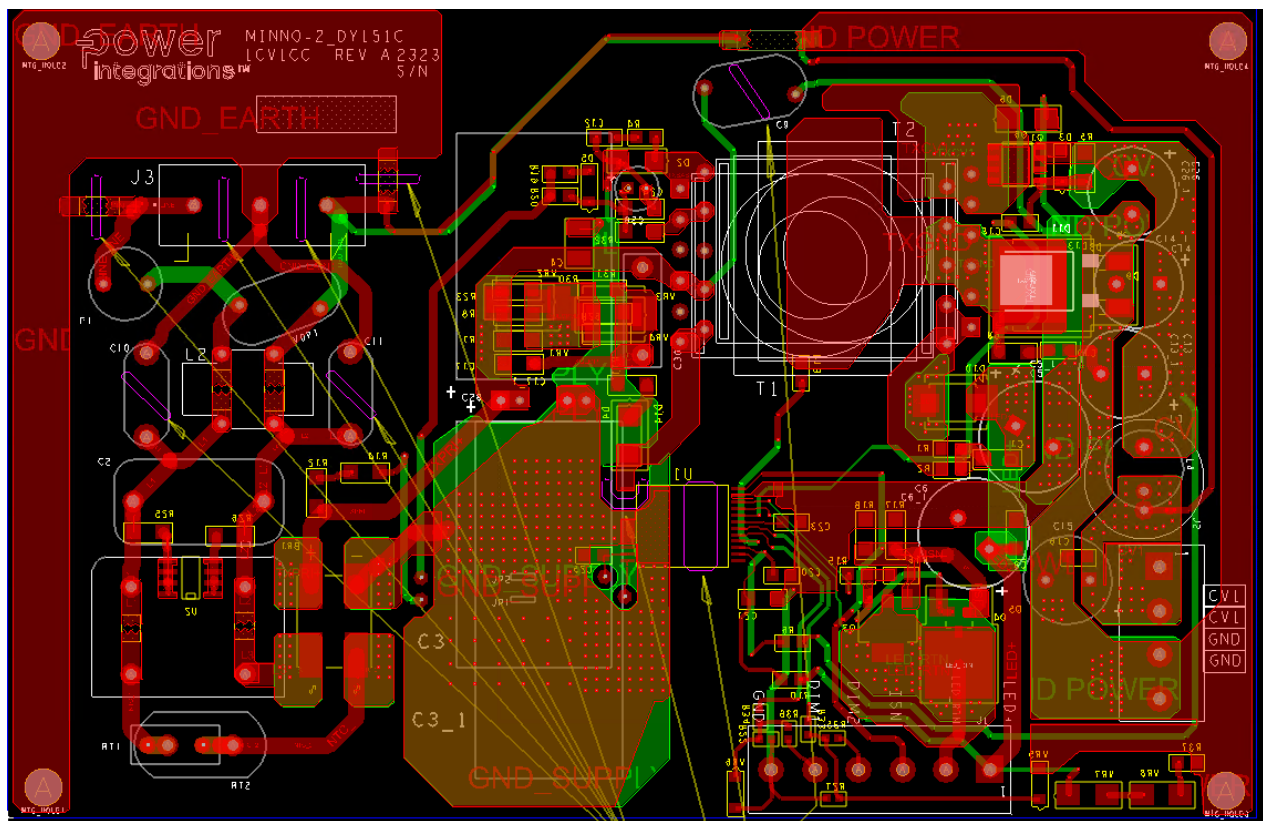
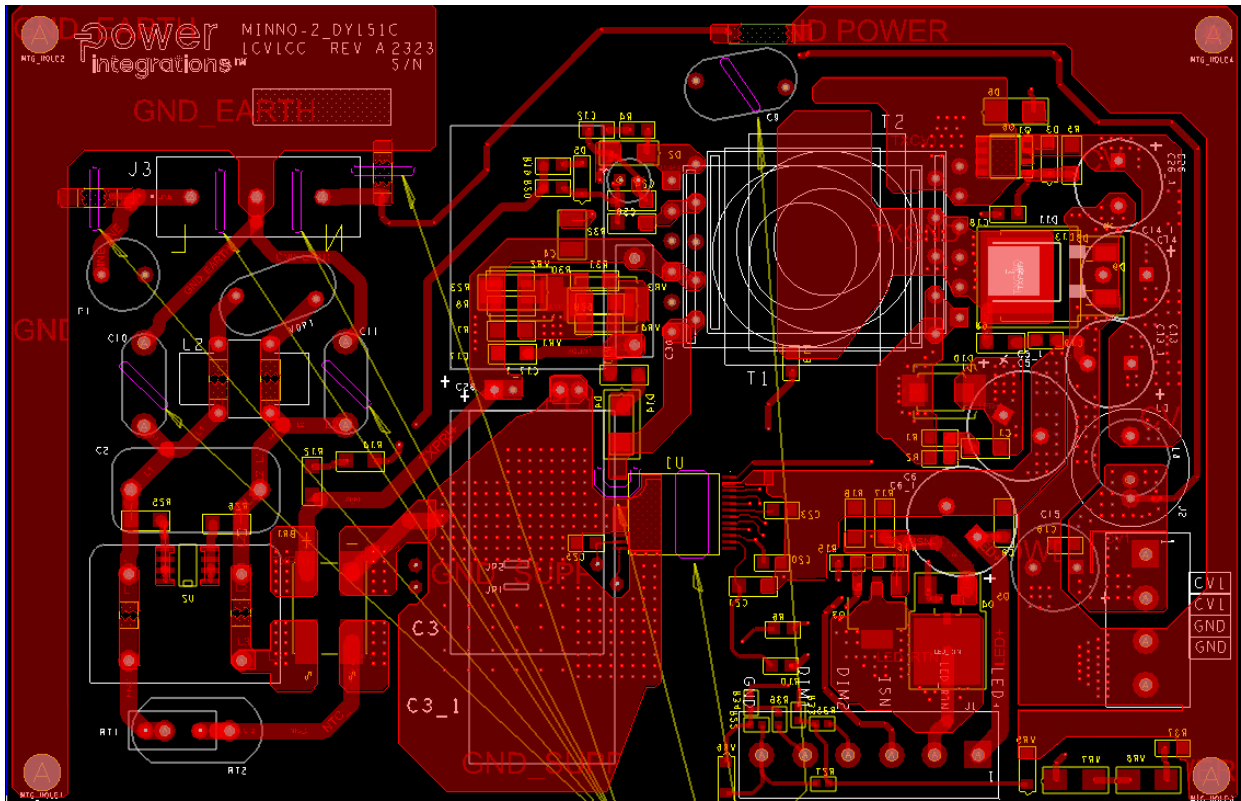
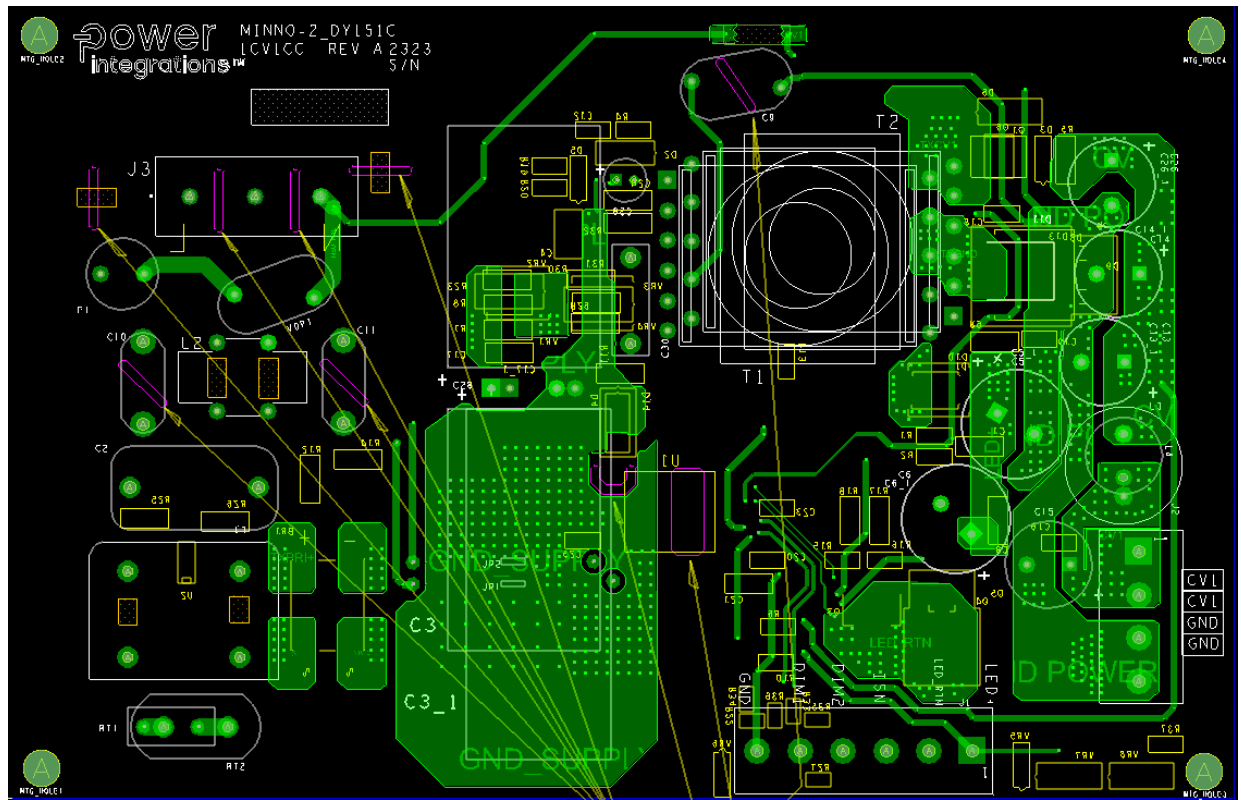

Figure 8 – Printed Circuit Layout.
Figure 9 – Printed Circuit Layout, Bottom.
Figure 10 – Printed Circuit Layout, Top.
The converter PCB layout is illustrated on Figure 8, Figure 9 and Figure 10 below. PCB copper thickness is 2 oz (2.8 mils / 70  $\mu\text{m}$ ) was used for the PCB.
- (1) FWD pin: FWD signal has large  $dv/dt$ , which can be one of the major noise source on the secondary circuit. Its PCB route should be kept away from the other signals.
- (2) Ground plane: The impedance from InnoMux-2 controller's ground to ANODE terminal of secondary rectifier diode (D1) should be minimized, or separated from the power return ground. Star connection ground can be used here, to prevent the large secondary discharge current from affecting the ground level of the InnoMux-2 controller.
- (3) Thermal: The primary switch in InnoMux-2 IC (U1) is cooled through the exposed pad and SOURCE pin of the IC. Care should be taken that their thermal impedance to the cooling copper of the PCB is kept to a minimum. (Figure 8).